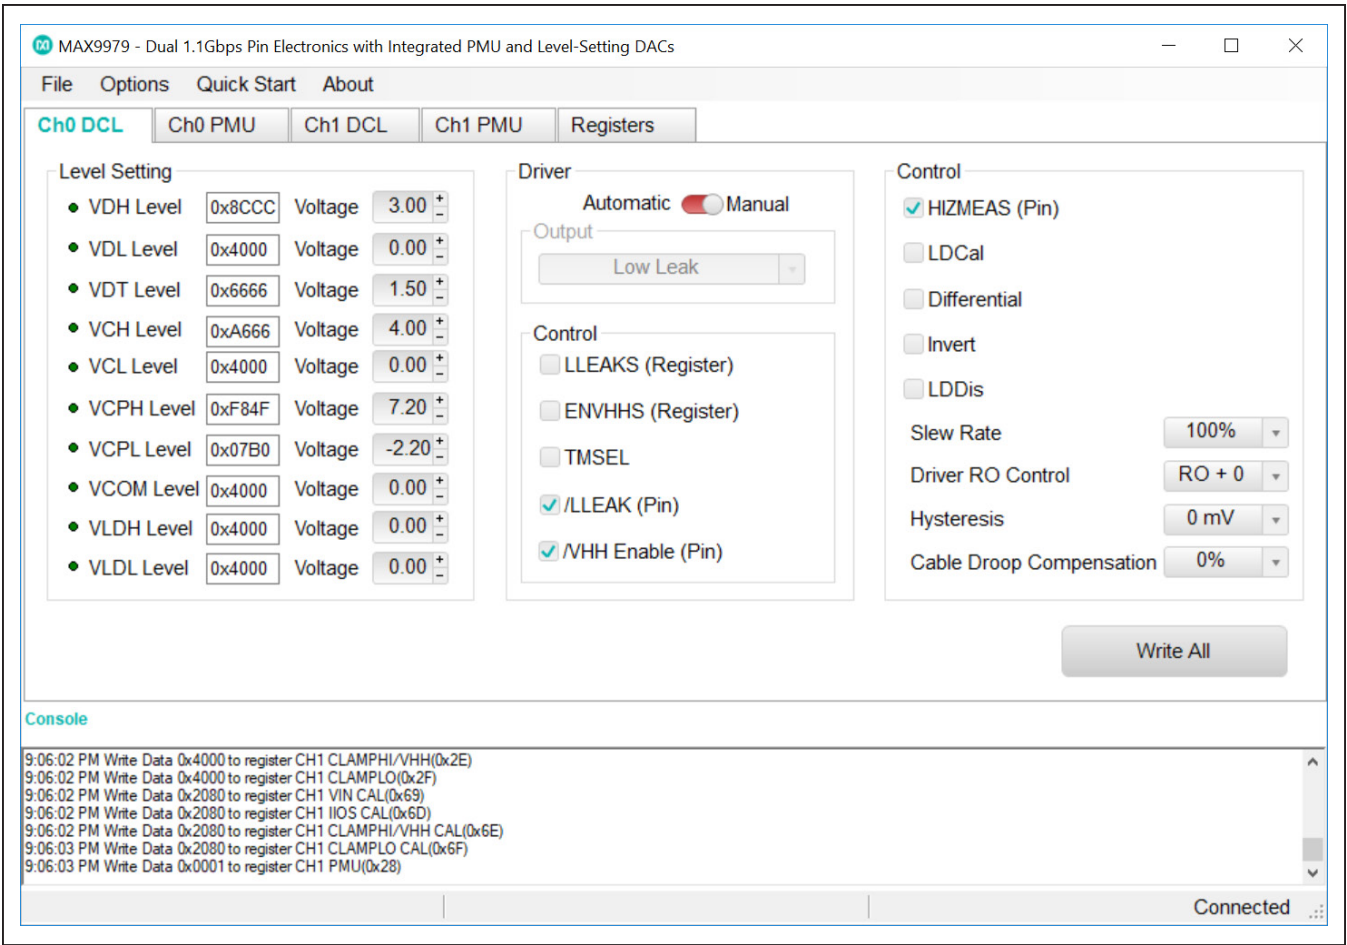

Figure 2. Quickstart Setup—Drive High Mode for Channels 0 and 1
- 17) Put the EV kit into drive mode by clicking the **Quick Start** on the menu bar of the GUI, as shown in Figure 2. This is a quick start option and places both channel 0 and channel 1 into the drive-high mode. In this mode, VDH is set to 3V and VDL to 0V for both channels.
There are two methods for configuring the MAX9979 device. The first method is through the graphical user interface as shown in Figure 2. The second method is through the **Registers** tab as shown in Figure 7. The **Registers** tab allows execution of serial commands manually. It can also be used as a debug tool because it is capable of writing to every register of the MAX9979.